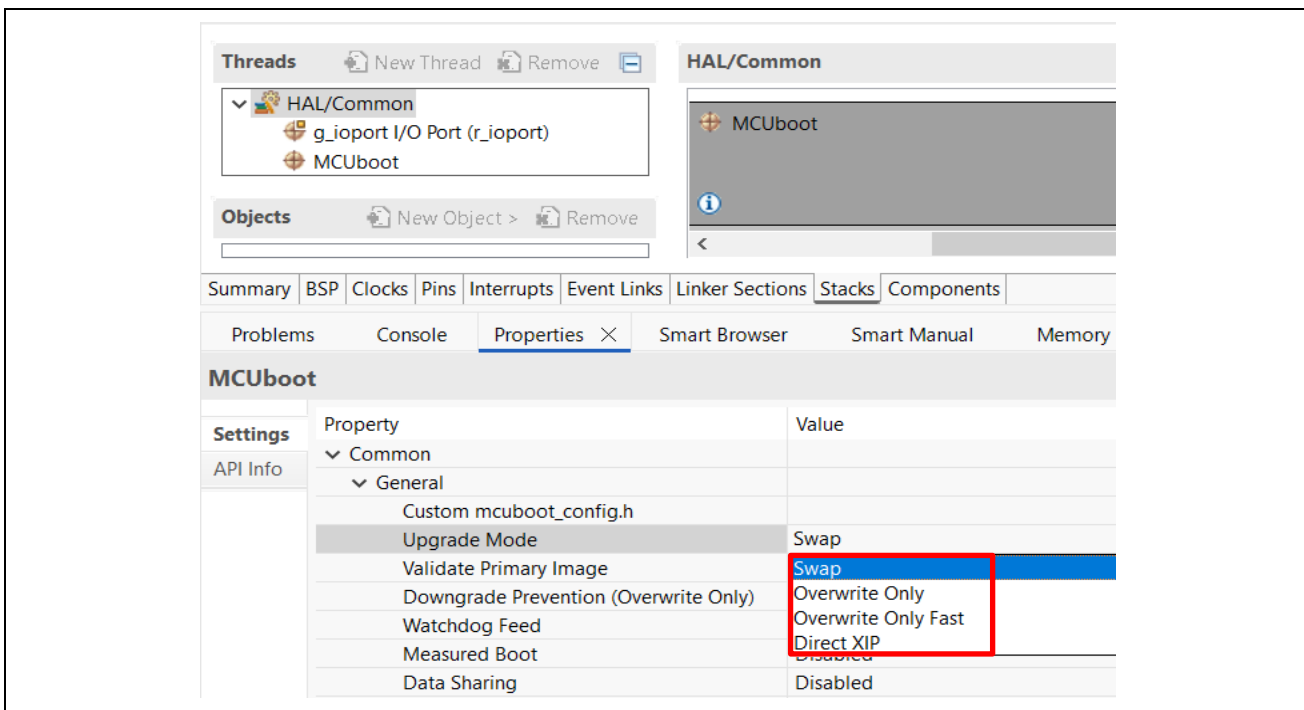

Figure 4. Application Image Update Mode
- Upgrade Mode:** This property configures the application image update method selection explained at the beginning of section 2.2. The options are Overwrite Only, Overwrite Only Fast, Swap, and Direct XIP, as shown in Figure 4. Overwrite Only is the default setting.